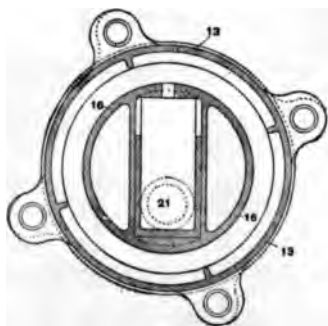

FIG. 9
The greater the eccentricity of the sheave the greater the circular movement of the lugs, and consequently the more reciprocating movement is communicated to the links and through them to the periphery of the gear. The provision of large ball bearings between the sheave and the strap at (14) and (19), Fig. 9, reduces the friction in this gear to a minimum, and